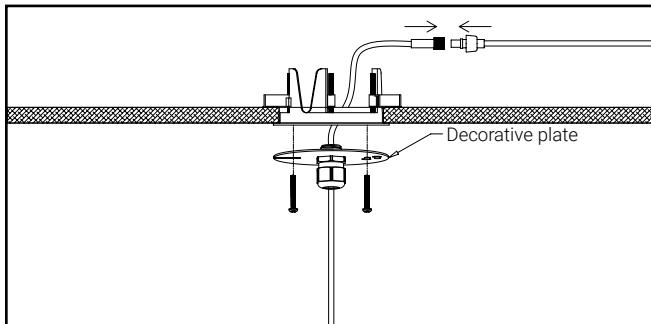

Figure 16.
6. Install the decorative plate on the low voltage junction box and connect low voltage power supply wire to light fixture using threaded connector. See Figure 16.